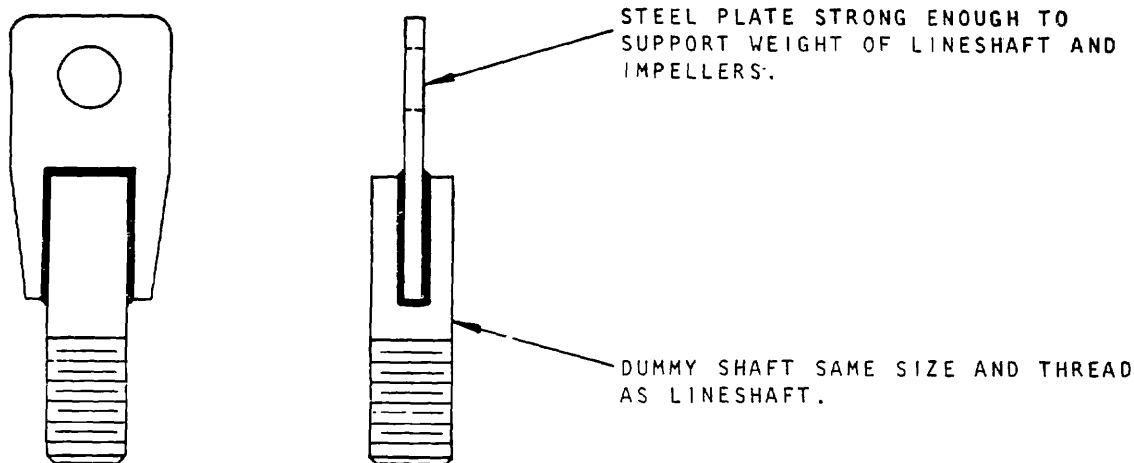

FIG. 4 - SHAFT LIFTING DEVICE
29. Shaft lifting device (deep settings only). See Fig. 4.